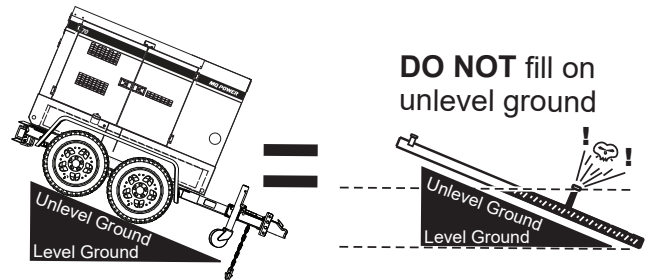

Figure 28. Only Fill On Level Ground
1. **Level Tanks** — Make sure fuel cells are level with the ground. Failure to do so will cause fuel to spill from the tank before reaching full capacity (Figure 28).